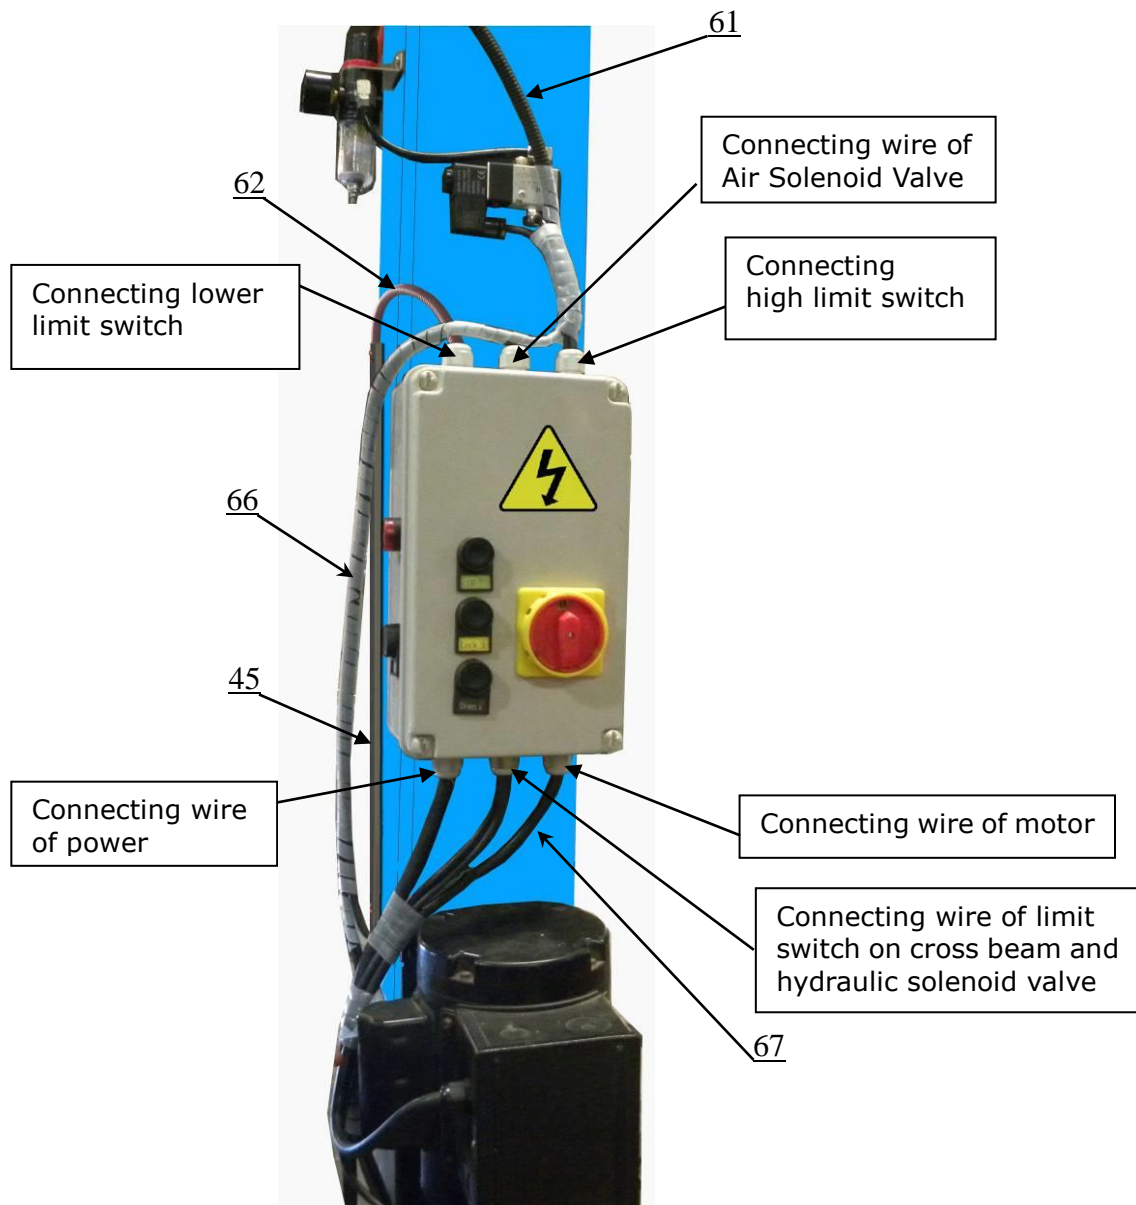

Fig. 33
4. Connecting wire with control box (See Fig. 33).